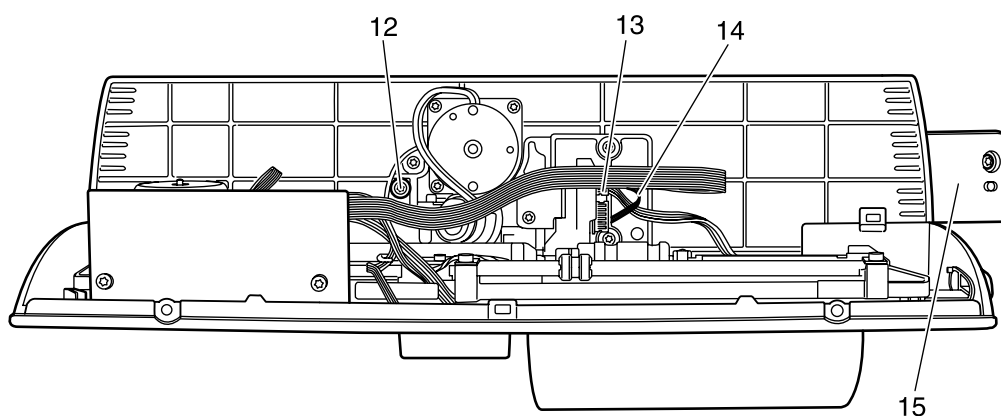

**Fig. 9**
6. Insert the swivel arm lower part 15 into the cut-out of the sliding arm and tighten it with the Torx screw 12 (Fig. 9).